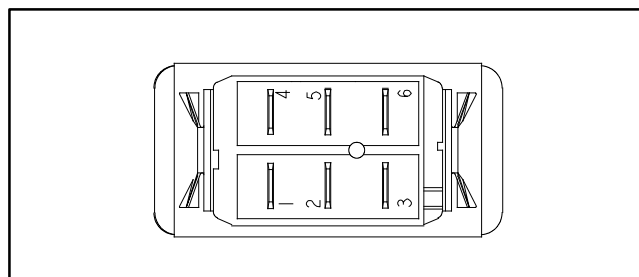

Figure 18
4. With the use of a multimeter (ohms setting), the switch functions may be tested to determine whether continuity exists between the various terminals for each light switch position. The light switch terminals are marked as shown in Figure 18. The circuitry of this switch is shown in the chart below. Verify continuity between switch terminals.